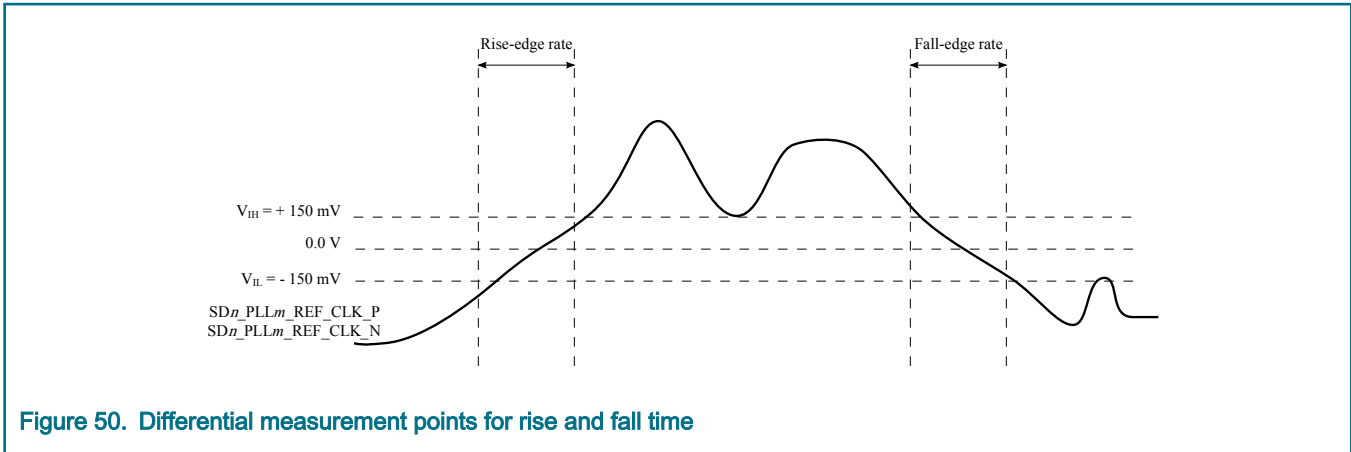

Figure 50. Differential measurement points for rise and fall time
signal trace curve in a differential waveform. The voltage represented in the differential waveform is not referenced to ground. See Figure 50 as an example for differential waveform.
8. See Figure 50.